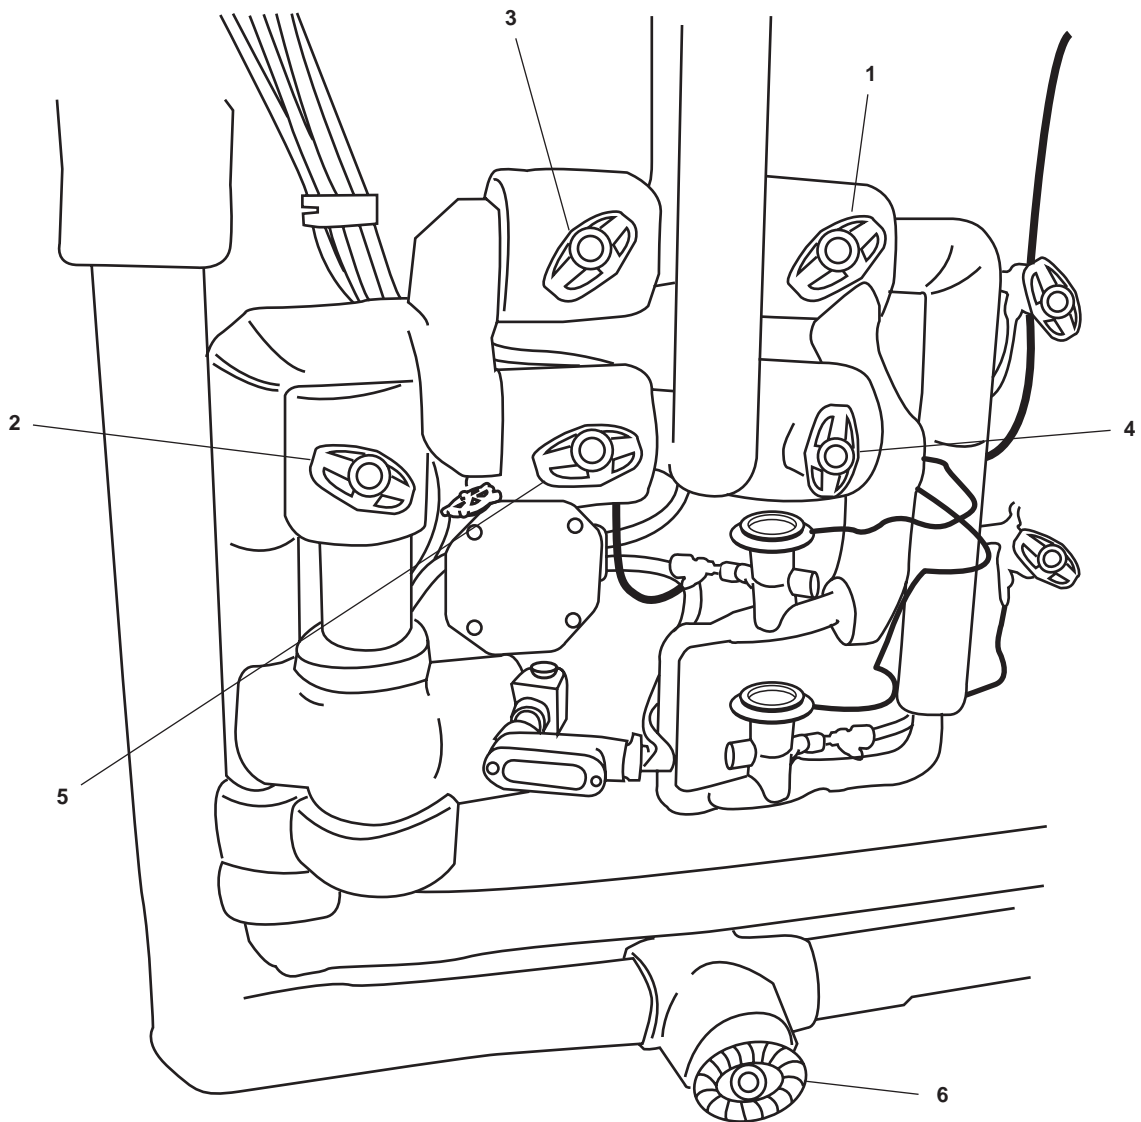

Figure 4. HVAC Manifold
- c. Open RFAC-34, TXV COV, R01-32-2 (figure 4, item 1) and RFAC-35, TXV COV R01-32-2 (figure 4, item 2).
- d. Open RFAC-59, HAND EXP. V (figure 4, item 3).
- e. Open RFAC-56, TXV COV, R01-32-2 (figure 4, item 4).
- f. Open RFAC-27, HAND EXP (figure 4, item 5).
- g. Open RFAC-40, COIL SUCT COV, R01-32-2 (figure 4, item 6).